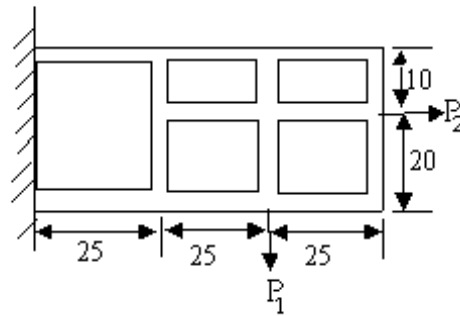

Figure 1b
- (b) Find the shear flow in each web of the beam shown in the figure 1b. Plot the distribution of axial load along each stiffening member when $P_1=25\text{kN}$, $P_2=15\text{kN}$ All dimensions are in cm. [6+10]